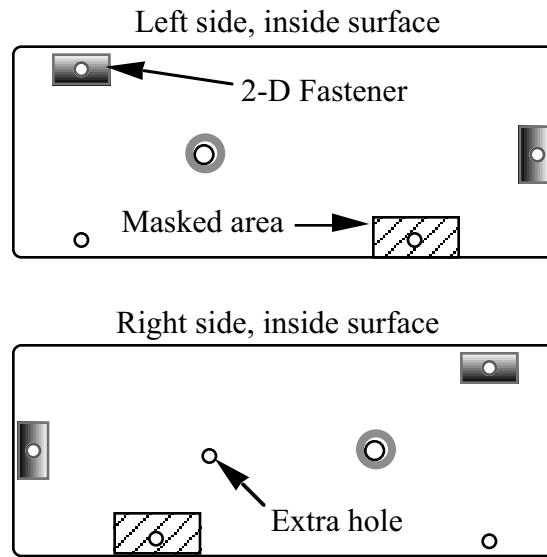
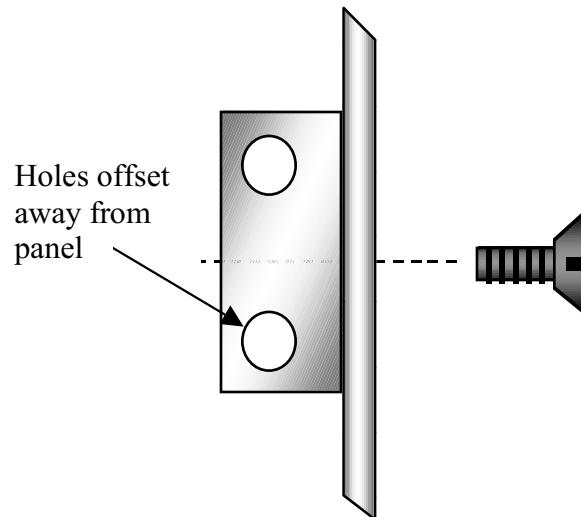

Figure 6-10
Figure 6-11
- Locate the two side panels and arrange them as shown in Figure 6-10, with the inside surfaces facing up. The right side can be identified by the presence of an extra hole as shown. The illustration also shows where 2-D fasteners will be installed, as well as the areas which were masked during painting.
- Attach two 2-D fasteners to each side panel at the locations indicated in Figure 6-10. (Make sure that the holes are countersunk; if not, you may be working with the wrong side of the panel.) Use one 3/16" (4.8 mm) flat-head screw to hold each 2-D fastener to the side panel (Figure 6-11). The two unused holes on each fastener must be offset *away* from the side panel as shown.